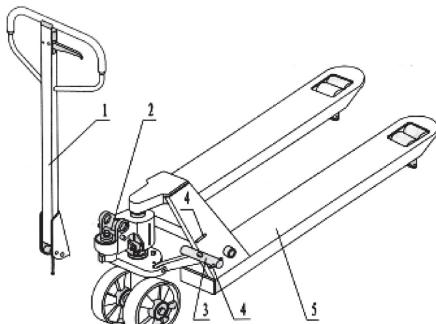

Fig. 1 1. Draw-bar      2. Pin
- Press the draw-bar (110B) down, take away the pin(#2) (See Fig. 1).
- Let the control handle (117) on 'RAISE' position, then raise the lever plate (319) with the pin (#2) and insert the adjusting bolt(103) into the front slot of lever plate (319), note to keep the adjusting nut (104) on the under side of the lever plate.
- Use a hammer to tap another elastic pin (106) into the axle with hole (105). The draw-bar is now assembled to the pump.